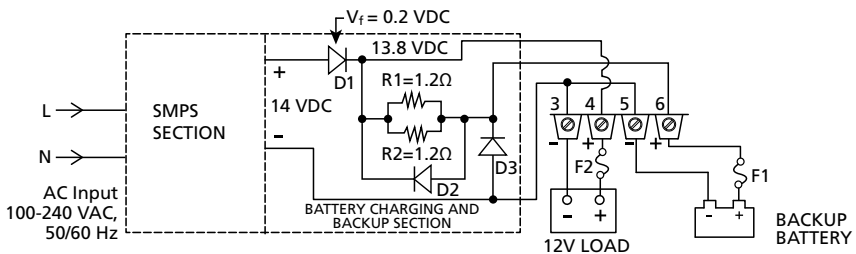

Fig 3.1 Schematic Diagram - Battery Charging / Backup
Please refer to the schematic diagram at Fig 3.1.
Refer to Fig 3.1
TABLE 3.1 FORWARD VOLTAGE DROP (VF) AND VOLTAGE AT CATHODE OF SCHOTTKY DIODE "D1" (FIG 3.1)
- Branch 1 for DC Load:** To the Positive Load Terminal (4, Figs 3.1) directly
- Branch 2 for Battery Charging and Backup:** To the Battery Positive Terminal (6 in Fig 3.1) through 2 x 1.2 Ohm parallel connected resistances R1 and R2 (2 x 1.2 Ohm parallel connected resistances will present effective series resistance of 1.2 Ohm ÷ 2= 0.6 Ohm). The battery charging current will be determined by the following approximate equation:
3.3.2.4 Using Equation 1 above, it will be seen that the effective series resistance of 0.6 Ohm will limit the charging current. The charging current will be higher when the battery is more discharged and will progressively reduce as the battery voltage rises when charged. The rated charging current of 4A is based on the unit supplying 19A to load and at the same time, charging a typical 100 Ampere Hour (Ah) battery discharged to 11.1V (70% discharged at Discharge Rate of 23A i.e. at around 5 Hr Discharge Rate of C/5). When the battery is charged to Float Voltage of 13.5V± 0.2V, the charging current will reduce to a very low value of around 0.1% of its Ampere Hour (Ah) capacity to compensate for its self discharge. For example, assuming that 100Ah capacity battery is being used, the Float Charging Current will be 0.1% of 100Ah or, 0.1A. Therefore, applying Equation 1 at Section 3.3.2.3 above, the voltage at the Battery Terminals (5, 6 in Fig 3.1) will be as given in Tables 3.2.1 and 3.2.2 below:
3.3.2.6.1 The voltage available at the Load Terminals (3,4 in Fig 3.1) during battery backup will be as per Equation 2 below:
3.3.2.6.2 Examples of voltages at the Battery Terminals (5, 6 in Fig 3.1) at different states of charge / discharge are given at Table 3.4 below:
3.3.4.1 If battery backup function is not used (external backup battery is not connected), the unit will work as a normal power supply with ability to supply 23A continuous at 13.8 ± 0.2 V at the Load Terminals (3, 4 in Figs 3.1 and 2.1). The maximum overload current will be limited to less than 27.6 to 29A. Hiccup Mode of over current and short circuit protections will be provided as detailed at Section 4.1.1.2
4.1.1.1 Refer to Fig 3.1 under Section 3
4.1.2.1 Refer to Fig 3.1 under Section 3
- a) **Overload:** When the value of load current + battery charging current is more than the Hiccup Mode Overload Protection Threshold of 27.6 to 29A [Section 4.1.1.2(a)], the SMPS Section will shut down (hiccup) and generate an average voltage of nearly 0V. Schottky Diode "D2" will, thus, be forward biased and the load will now see a lower voltage = [Battery voltage corresponding to its State of Charge – Forward Voltage Drop of 0.2V across Schottky Diode D2]. As Schottky Diode "D2" will be forward biased, the entire load current will be supplied by the battery through "D2" bypassing Charging Current Limiting Resistors R1 and R2. As the battery is an unlimited source of current, it can supply extremely large overload currents. However, as the load side is protected by external 25A Fuse F1 (Figs 3.1 and 2.1), this fuse will blow if there is a sustained overload of 25A for more than around 100 sec.
- b) **Short Circuit:** A short circuit is actually an overload condition that is created when the Load Terminals are loaded through very low impedance path that results in very high current as compared to the rated / overload current of the source. The symptoms will, therefore, be same as in overload condition explained at Section 4.1.2.2(a) above. The difference is that the external 25A Fuse F1(Figs 3.1 and 2.1) will blow almost instantaneously under short circuit conditions due to extremely large value of short circuit current as compared to the value of overload current.
A Thermal Fuse like the 25A Fuse "F1" / "F2" (Figs 3.1 and 2.1) will allow higher values of short duration surge currents determined by its Time Versus Current Characteristic. For example, based on Time Versus Current Characteristics of 32V, 25A Thermal Fuse Type ATC-25 from Cooper Bussmann, the fuse will pass extremely high surge currents for shorter durations as follows:
4.2.1 Refer to Fig 3.1 under Section 3